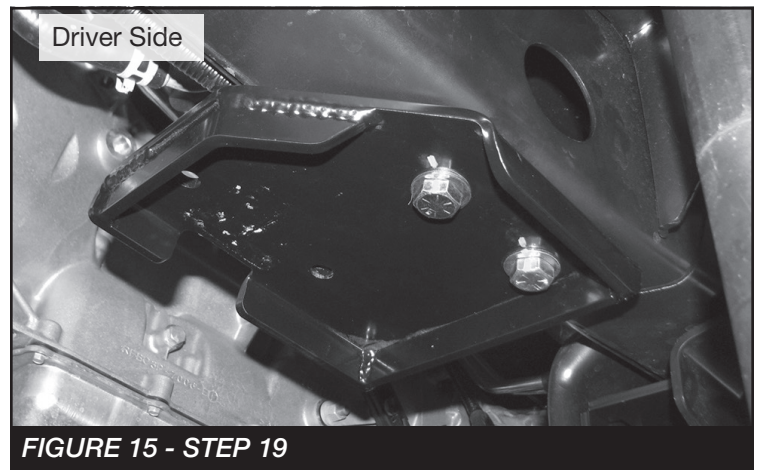

FIGURE 15 - STEP 19
19. Install FT30768 (Driver frame bracket) & FT30769 (Passenger frame bracket) using the FT30698 (nut tab) and 1/2" X 1-1/2" bolts, lock & flat washers. **NOTE:** Insert the nut tab through the factory hole on the side of the frame. Torque to 127 ft-lbs. **SEE FIGURES 15**